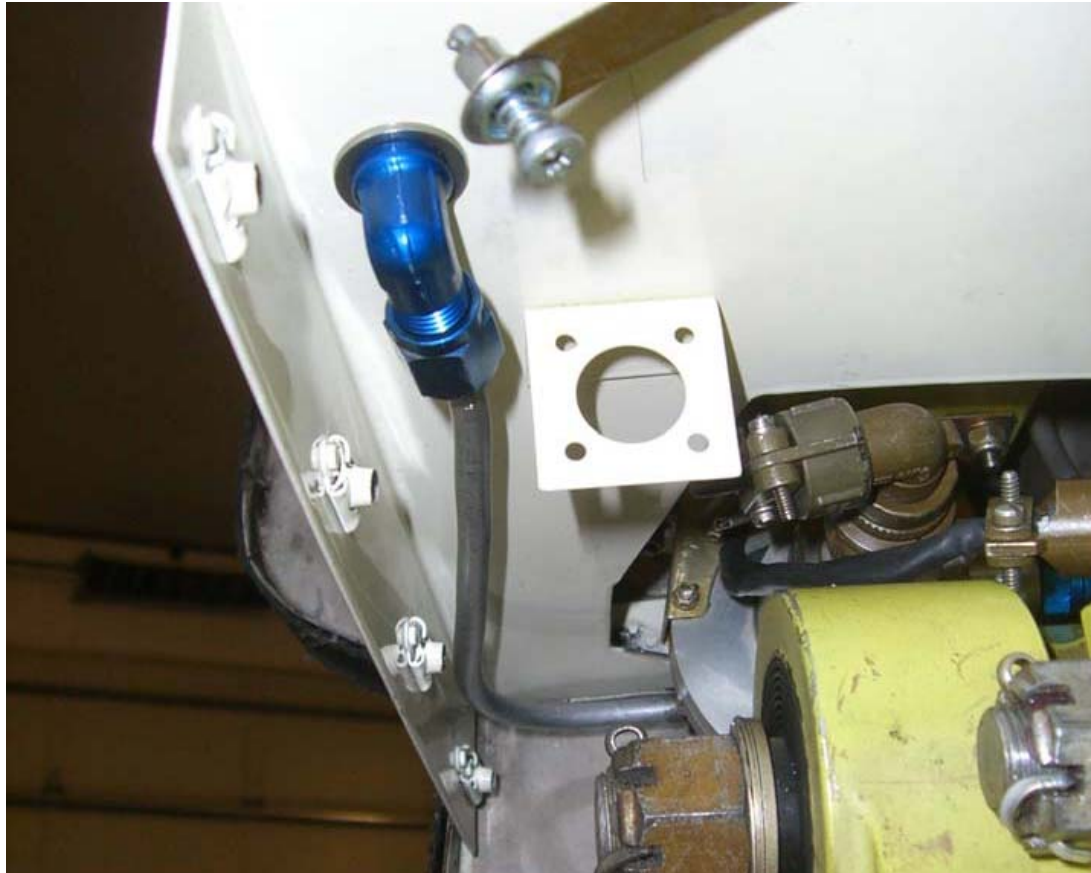

Figure 7 – Aluminum Tubing Installation
- (g) Install ¼" aluminum tubing between differential pressure switch banjo fitting and the 90° bulkhead fitting (figure 7).